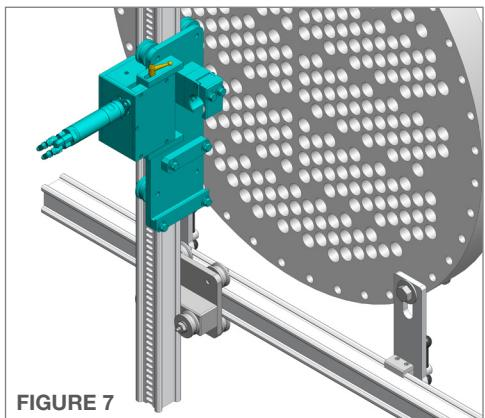

FIGURE 7
7. Loosen the **Quick Adjust Handle** and pull the gearbox away from the carriage plate. This will allow the **Vertical Drive Carriage** to slide onto the rail without pneumatic power to rotate the drive. Center the carriage on the vertical rail and push the gearbox back toward the carriage plate. This will engage the gear into the rail slots. Verify the gear is engaging the slots correctly and tighten the adjustable handle. (**Figure 7**)